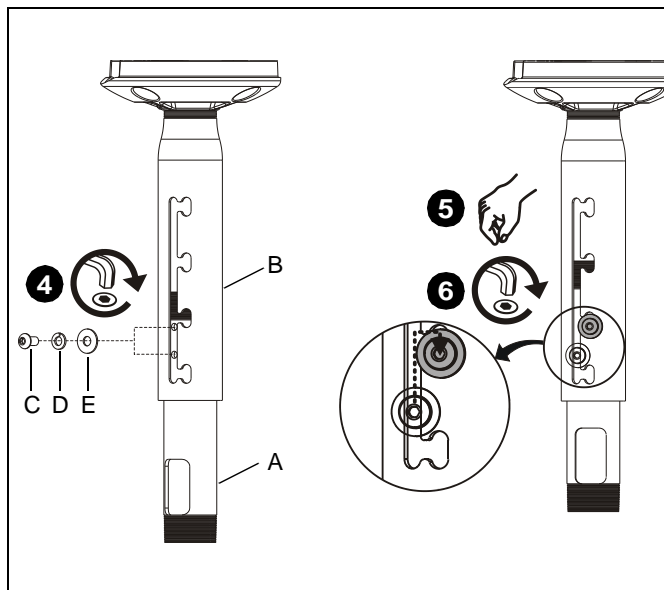

Figure 3
4. Using key (J), loosely install screw (C) through lock washer (D), flat washer (E), and outer column (B) into adjustment hole in inner column (A) (See Figure 3).
5. Adjust column (A or B, as applicable) to desired length, then rotate and lock into position (See Figure 3).
6. Tighten screw (C) using key (J) (See Figure 3).